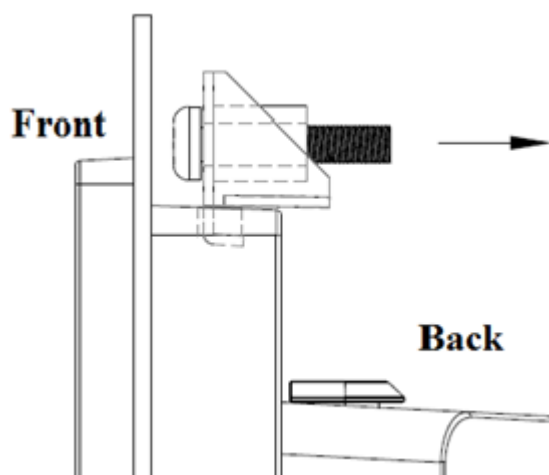

Figure 2.31 Hook brackets location
4. Tighten the screws to affix the panel PC in place (Figure 2.31).